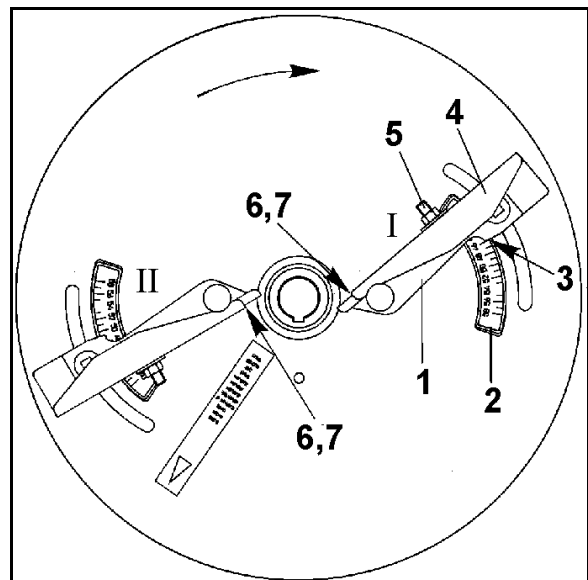

Fig. 69
are set via the telescoping vanes (Fig. 69/1) in accordance with the setting chart depending on the type of fertiliser to be spread and the distance of the first tramline from the field edge:
1. Swivel the telescoping vanes (Fig. 69/1) on the spreading disc after releasing the respective wing nut in the area of the scale (Fig. 69/2). Read off the value at the read-off edge (Fig. 69/3) and retighten the wing nut.
2. Set the vane outer section to a higher letter value (Fig. 69/4) after releasing the nut (Fig. 69/5) on the scale (Fig. 69/6). The respective position of the vane outer section is read off at the read-off edge (Fig. 69/7) on the scale.